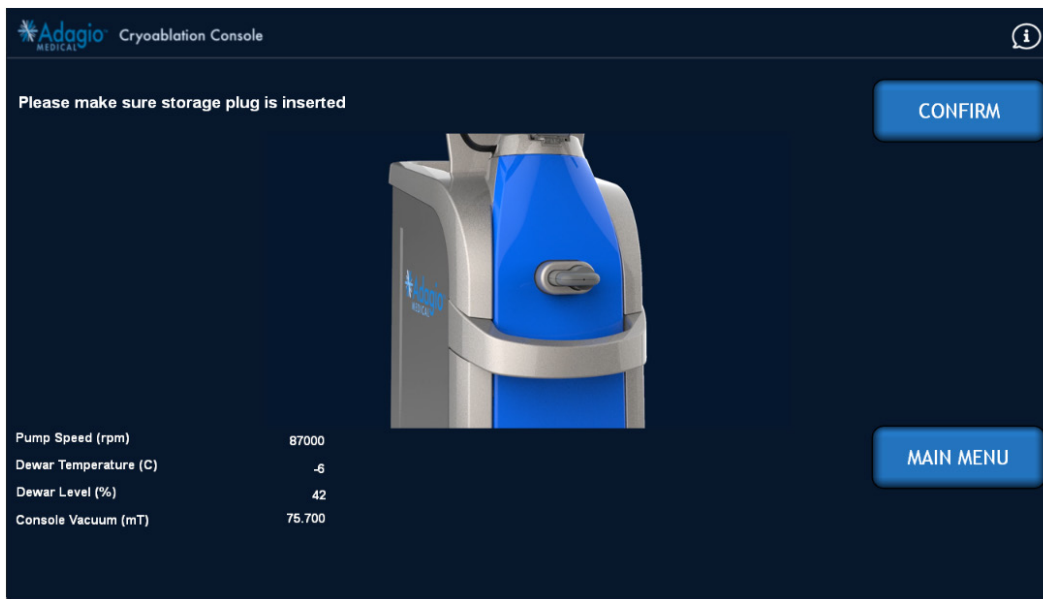

Figure 68 – Insert Storage Plug Screen Image
1. From the Main Menu (Figure 66), select “Prepare Console”. The storage plug must be inserted at this point (Figure 68). Press “CONFIRM” once the storage plug is put in place.